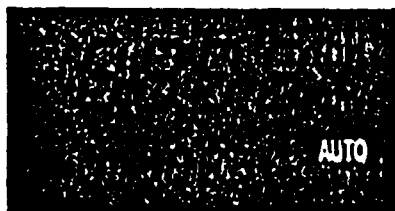

Figure 7. Auto Indicator
3. Press: **AUTO** The Auto indicator will light; see Figure 7. The S1 and pH indicators will flash. Zeros will appear in the display.